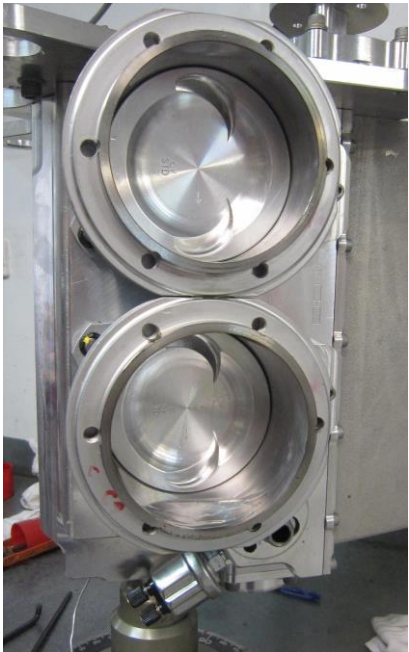

Figure 135 – Installation of Pistons With Valve Relief
- Current pistons feature modifications to the piston crown to allow the piston to prevent a stuck valve impacting the piston. Assembly for these parts is the same as for older piston types and is as detailed herein. However, note that these parts are handed – with a different part number being used on the left side of the engine compared to the right. When confirming piston orientation note that the valve relief is always on the sump side of the engine as shown in Figure 135.